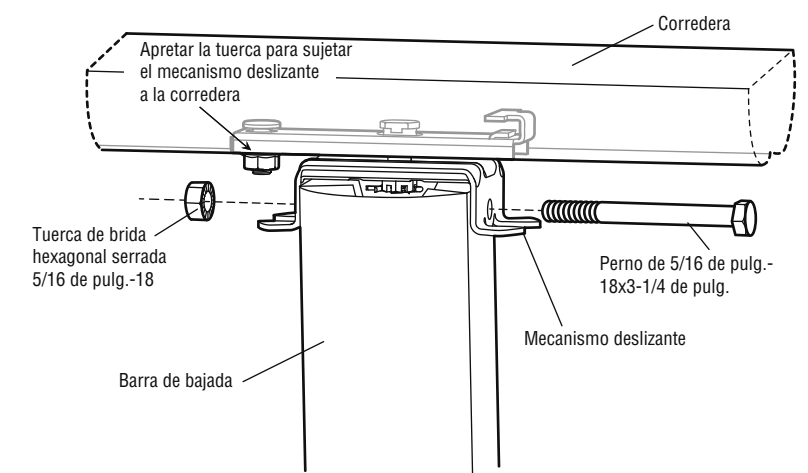

FIGURA 2
2. DETERMINAR LA LONGITUD DE LA BARRA DE BAJADA Y CORTAR A LA MEDIDA (FIGURA 2)